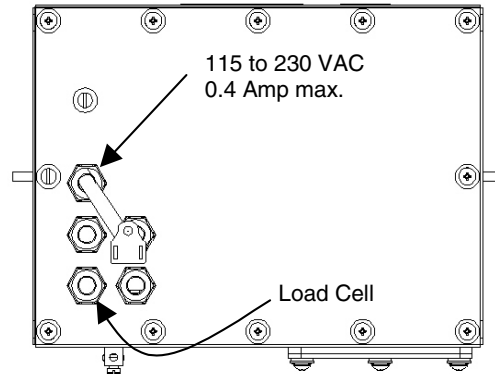
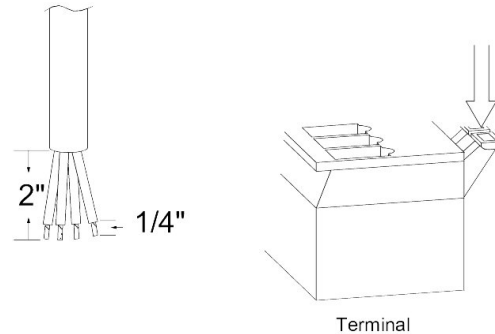

Figure No. 4
Figure No. 5
Remove the 12 screws securing the back panel to the main housing, then loosen the bottom-left cable gland connector for the load cell. This gland connector is located on the rear panel of the enclosure. Refer to Figure No. 4 for an illustration of the connector layout.
2. Remove 2" of the outer insulation jacket then remove 1/4" of insulation from each of the 4 wires and shield without sense leads or 6 wires and shield with sense leads (refer to Figure No. 5).
1. Loosen the cable gland connector(s) for the serial cable. The gland connector(s) for the serial data are located on the rear panel of the enclosure. Refer to Figure No. 4 for an illustration of the gland connector layout.
3. Remove 2" of the outer insulation jacket then remove 1/4" of insulation from each of the wires (refer to Figure No. 5).
To connect the control cable to the preset weight comparator/checkweigher logic level output connector P10, first loosen the gland connector located on the back of the 210 on the right side. Refer to Figure No. 4 for the exact location of this connector. Slip the cable through this connector and into the enclosure. Remove 2 inches of the cable insulating jacket then 1/4 inch of insulation from each of the internal wires (refer to Figure No. 5). Make the proper terminations on terminal block P10. To terminate a wire, first press down on the terminal block release bar, insert the wire into the terminal and remove pressure from the release bar locking the wire in place.